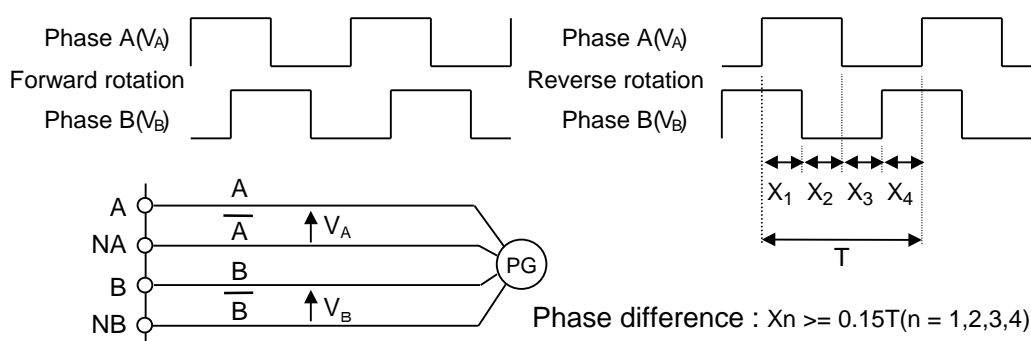

Figure 3-1 Judgement on normal and reverse rotations by the PG feedback of two phases (Phases A and B)
The encoder installation direction and signal line wiring should be determined so that the signal that are fed back from the encoder will show the waveform shown in Figure 3-1 in terms of the motor rotation direction.
**The signal feedback from the encoder should have the waveform shown in Figure 3-1 in terms of the motor rotation direction. The encoder installation direction and signal wiring should be done accordingly.**